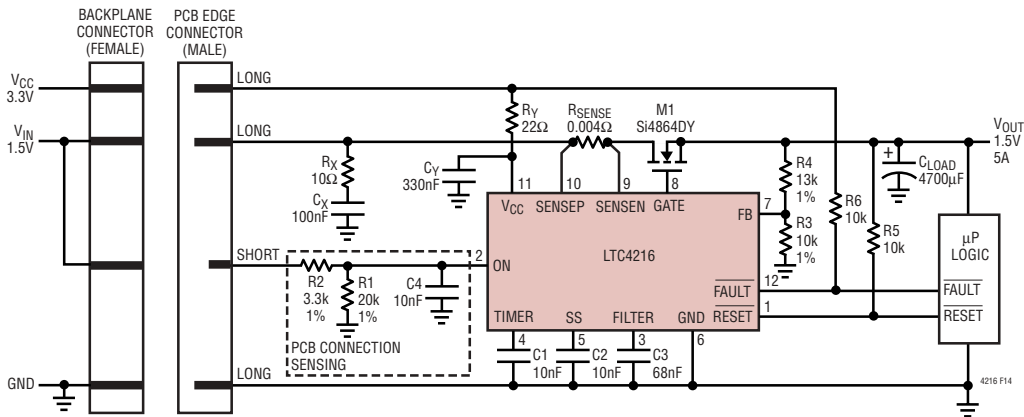

Figure 14. Single Channel 1.5V Hot Swap Controller
The LTC4216 can be used on either the backplane side of the connector or a printed circuit board, and examples for both are shown in Figure 14 and 15. Printed circuit board edge connectors with staggered pins are recommended as the insertion and removal of circuit boards will sequence the pin connections. Supplies ( $V_{CC}$  and SENSEP) and ground connections on the printed circuit board should be wired to the long pins or blades of the edge connector. Control signal (ON) and status signals (RESET and FAULT) passing through the edge connector should be wired to short pins or blades.
An example is shown in Figure 14, in which the LTC4216 is mounted on the PCB and the R1/R2 resistive divider is connected to the ON pin. On the edge connector, R2 is wired to a short pin. Before the connectors are mated, the ON pin is held low by R1, keeping the LTC4216 in an off state. When the connectors are mated, the resistive divider is connected to the load supply ( $V_{IN}$ ) and the ON pin voltage rises above  $0.8\text{V}$ , turning the LTC4216 on.